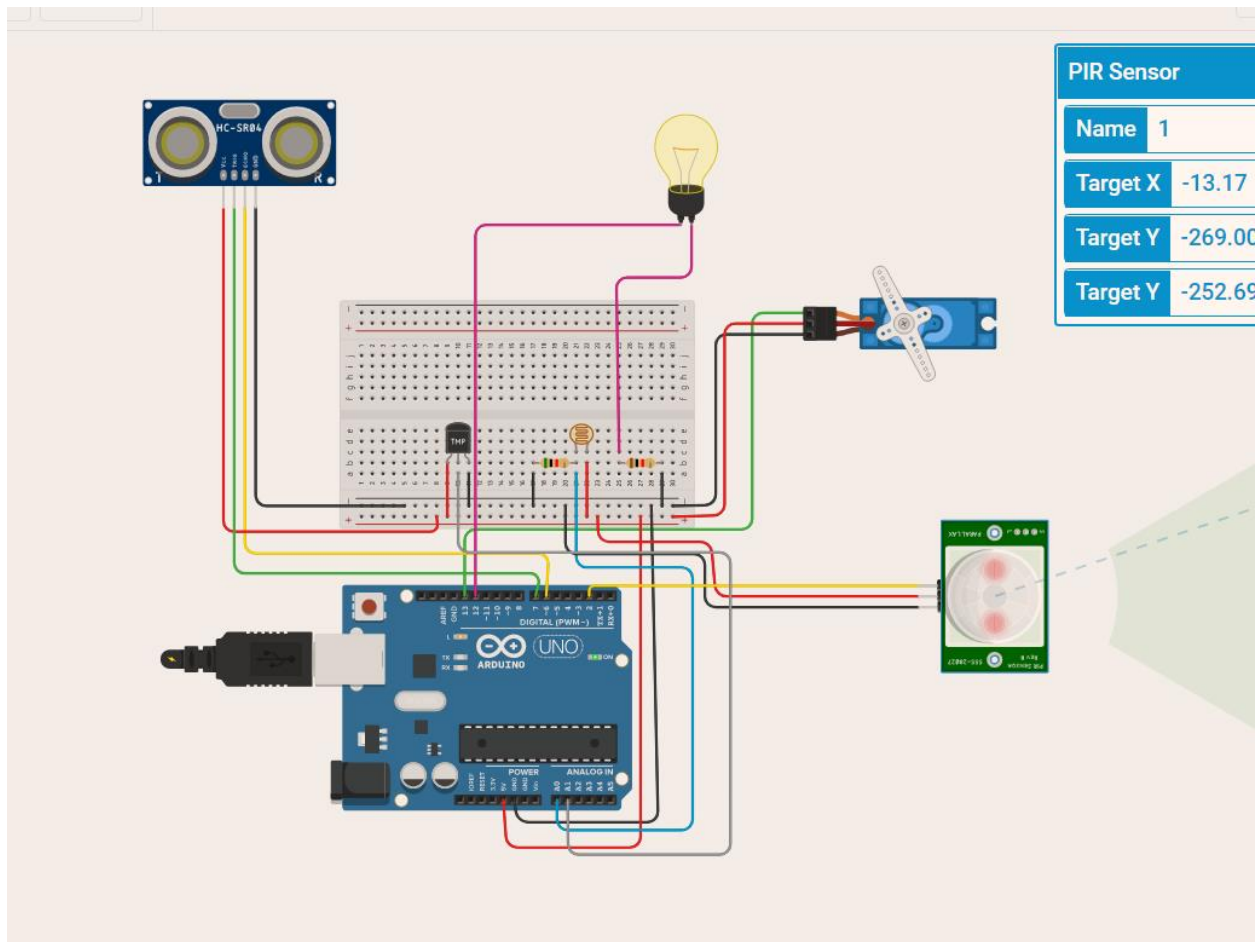

Fig 7
- As shown in fig 7 Distance is more than 50 cm, so the door is moving.